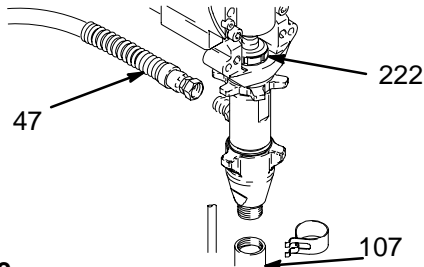

Fig. 12 7672B
3. Fig. 12. Cycle pump with piston rod (222) in its lowest position.
4. Fig. 12. Remove suction tube (107) and hose (47).